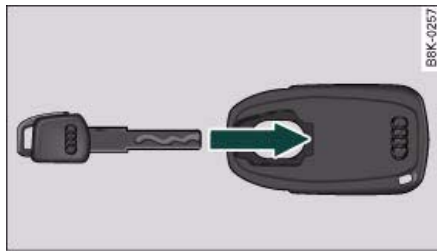

Fig. 34 Inserting the
- Insert the spare key ⇒ fig. 34 all the way into the adapter. Please note that the key will only engage in one position.